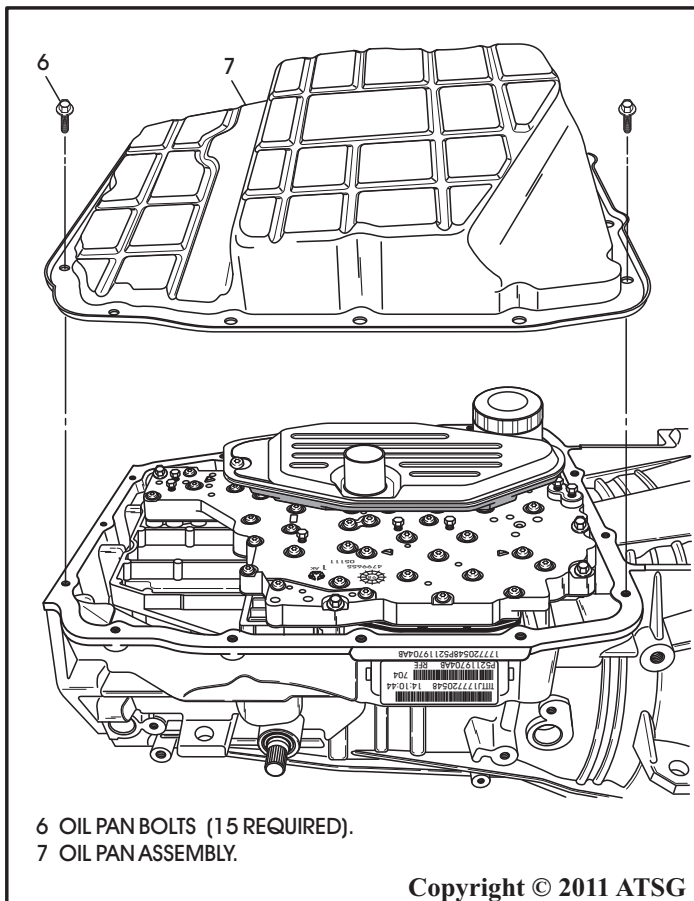

Figure 39
12. Remove the 15 bottom pan bolts, using an 8mm socket, as shown in Figure 39.
13. Remove bottom oil pan as shown in Figure 39.